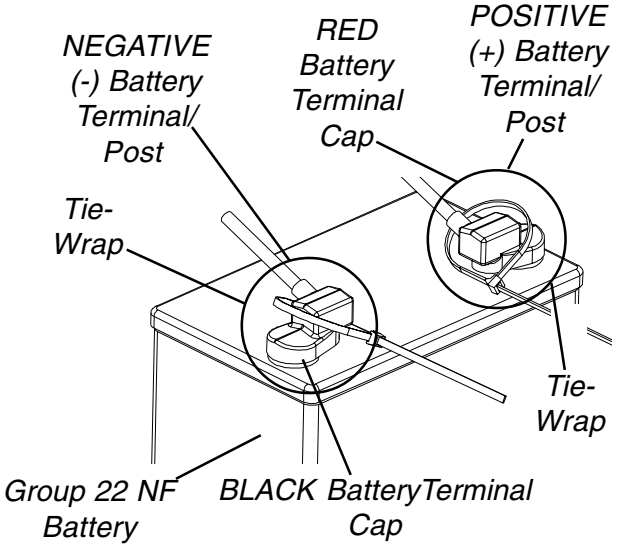

FIGURE 3 - CONNECTING BATTERY CABLES - DIRECT MOUNT METHOD
When connecting the battery cables to the battery(ies), the battery cable(s) MUST be connected to the battery terminal(s)/post(s) as shown in DETAIL "A" or DETAIL "B" of FIGURE 3 (depending on battery type), otherwise damage to the battery cable may result when installing battery terminal caps.
- 2. Connect battery cable(s) to battery(ies) terminal(s)/post(s) as follows (DETAIL "A" or DETAIL "B" of FIGURE 3, depending on battery type):
- 3. Secure the battery cable(s)/ring terminal(s) to the battery terminal(s)/post(s), BLACK to NEGATIVE (-) and RED to POSITIVE (+), with the provided 1/4-20 x 7/8-inch hex flange screw and hex flange locknut. Securely tighten. (DETAIL "A" or DETAIL "B" of FIGURE 3, depending on battery type).
- 5. Slide terminal cap(s) down battery cable(s) and onto battery clamps (FIGURE 3).
- 6. Secure each terminal cap in place with a tie-wrap (Use tie-wraps 11-1/2-inches long) (FIGURE 3).